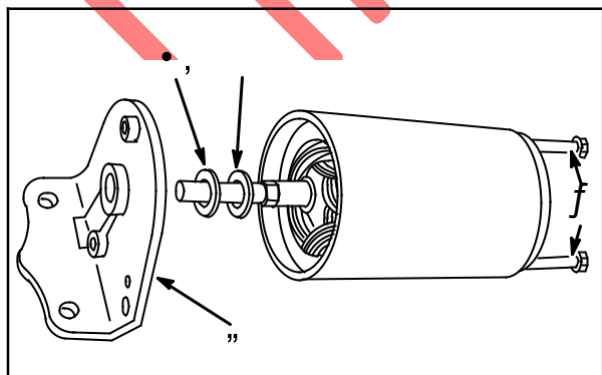

Fig. 28
Assemble spacer washer (1) and spring washer (2, if equipped) to armature shaft, **Fig. 28**.